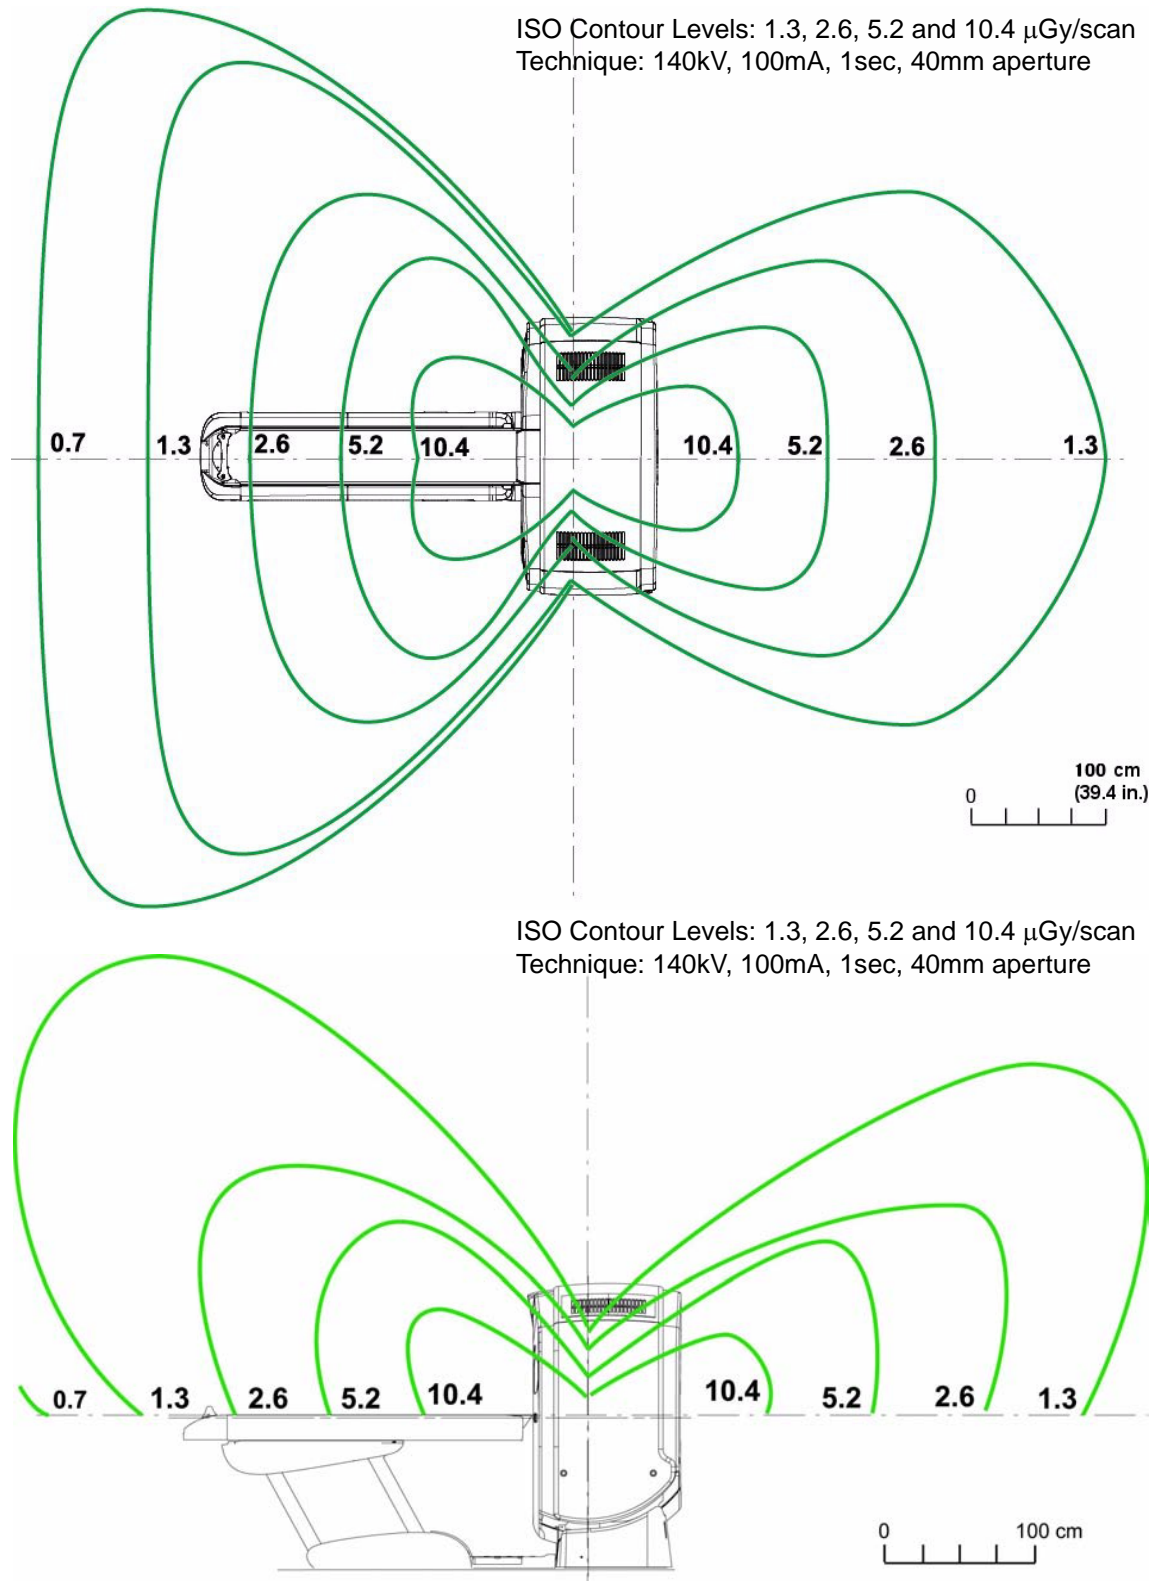

Figure 10-1 Typical Scatter Survey (Large Filter)
- Scatter radiation levels within the scanning room (see Figure 10-1).
Figure 10-1 depicts measured radiation levels within the scanning room, while scanning a 32 cm CTDI phantom and using a large filter, with the technique shown. Use the mAs, kV and aperture scaling factors shown in Table 10-1 to adjust exposure levels to the scan technique used at the site. *Example* (from Figure 10-1): The exposure level for a 120 kV, 800 mA, 1 sec. scan at 1270 mm (50 in.) away from the scan plane is: $10.4 \text{ mGy} \times 0.71 \times 800/100 = 59.2 \text{ mGy}$.